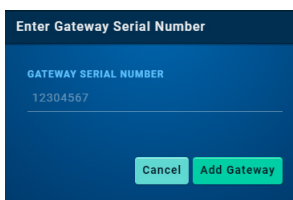
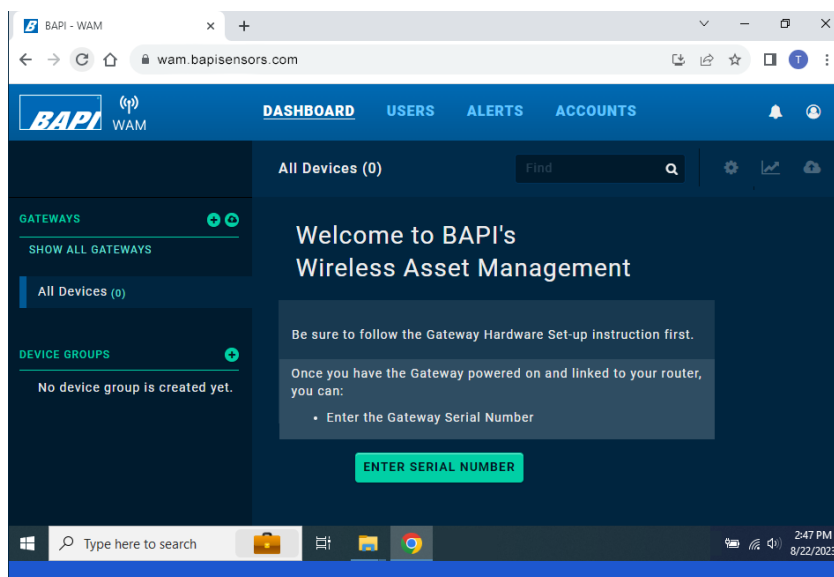

Fig. 7: Enter Gateway Serial Number Window
Fig. 6: WAM Website Initial Screen
- Click the "Enter Serial Number" link, or click on the green "+" icon across from the word "Gateway" in the left menu bar (Fig 6), to open the "Enter Gateway Serial Number" window (Fig 7).